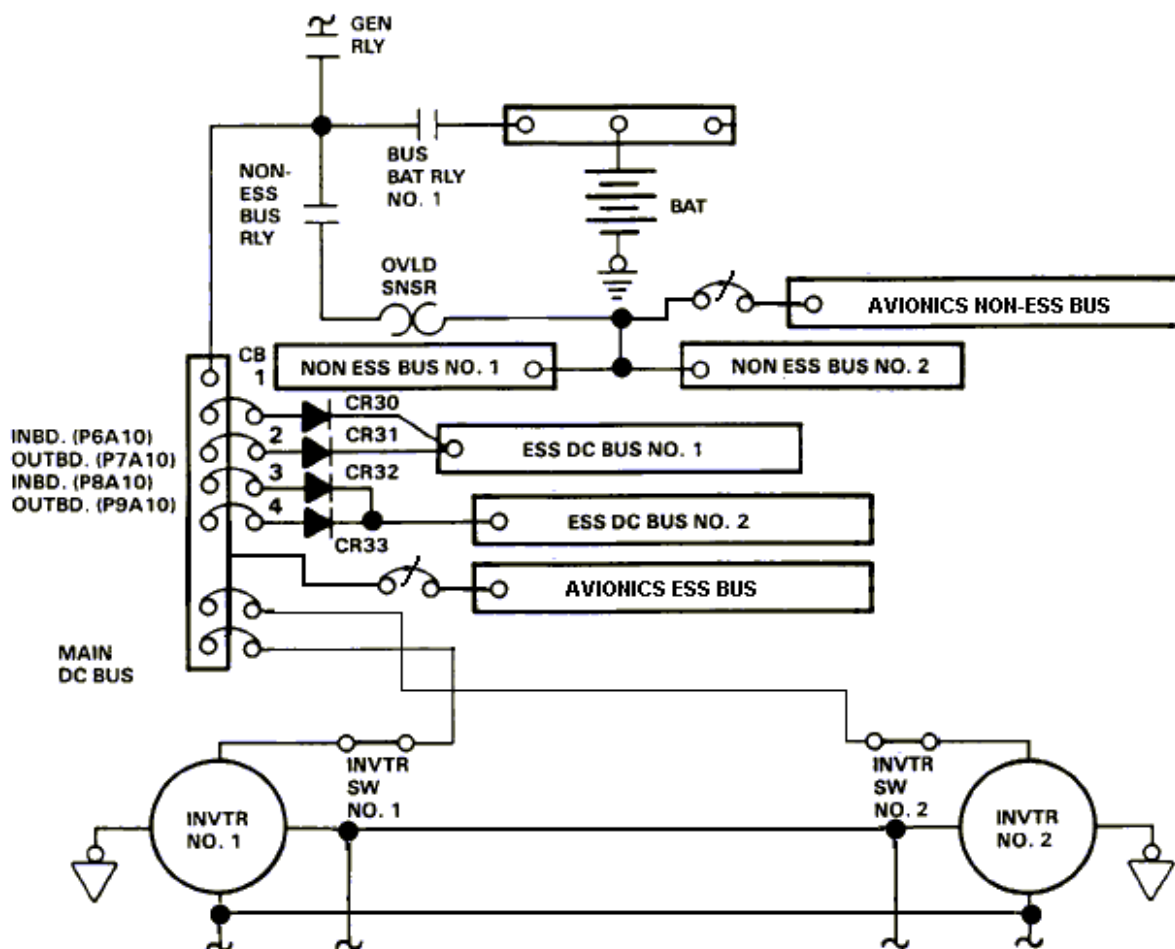

Figure 96-4. Power Diode Electrical Bus Wiring Schematic
96.3.19.1 Refer to Table 96-6 and Figure 96-4 and perform diode functional checkout procedures.
**Note: Instructions (Refer to Figure 96-4)**